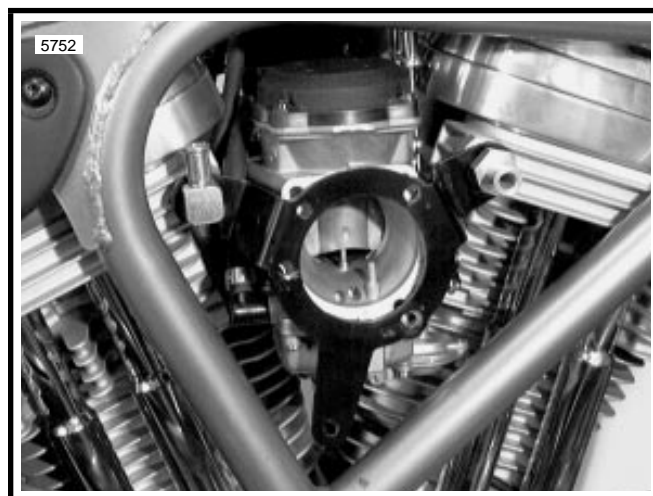

Figure 4-20. Breather Bolts
See Figure 4-20. Air cleaner support ring fits around breather bolts. Fitting on rear breather bolt may not clear the frame if bolt removal is attempted. Do not remove rear breather bolt unless absolutely necessary.
1. See Figure 4-20. If removed, apply HYLOMAR to threads of breather bolts. Install air cleaner support ring using breather bolts and washer. Tighten breather bolts to 10-15 ft-lbs (13.6-20.3 Nm).